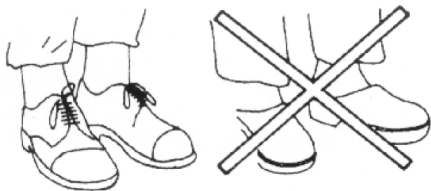

Fig. 4.1
- Wear safety shoes (figure 4.1).